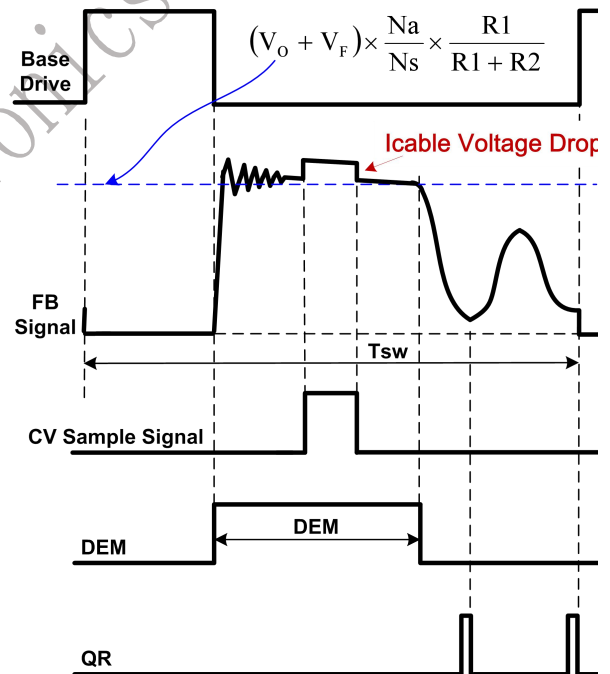

Fig.2
In Primary Side Regulation (PSR) control, the output voltage is sensed on the auxiliary winding during the transfer of transformer energy to the secondary. Fig.2 illustrates the timing waveform of CV sampling signal, demagnetization signal (DEM) and quasi-resonant (QR) trigger signal in DP1801KB. When the CV sampling process is over, the internal sample/hold (S&H) circuit captures the error signal and amplifies it through the internal Error Amplifier (EA). The output of EA is sent to the Quasi Resonant PSR CV Modulator (QR-CVM) for CV regulation. A valley is selected to trigger new PWM cycle by the output of the QR-CVM block, which is determined by the load. The internal reference voltage for EA is trimmed to 1.3V with high accuracy.
During the CV sampling process, an internal variable current source is flowing to FB pin for Cable Drop Compensation (CDC). Thus, there is a step at FB pin in the transformer demagnetization process, as shown in Fig.2. Fig.2 also illustrates the equation for “demagnetization plateau”, where V_o and V_f is the output voltage and diode forward voltage; R_1 and R_2 is the resistor divider connected from the